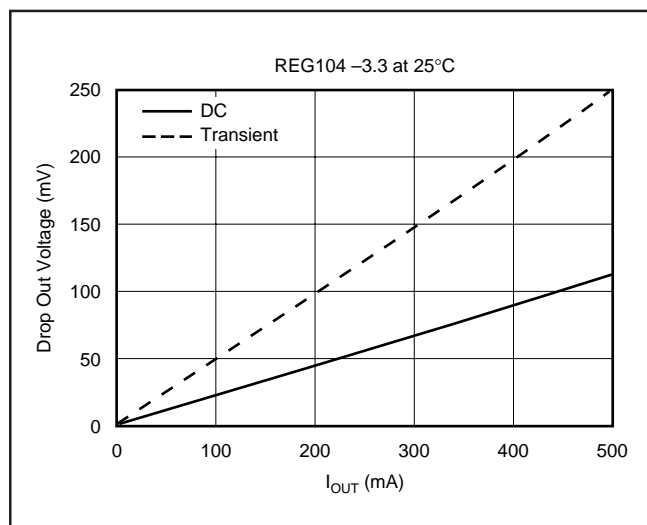

FIGURE 8. Transient and DC Dropout.
The REG104 uses an N-channel DMOS as the *pass* element. When the input voltage is within a few hundred millivolts of the output voltage, the DMOS device behaves like a resistor. Therefore, for low values of V_{IN} to V_{OUT} , the regulator's input-to-output resistance is the $R_{DS(ON)}$ of the DMOS pass element (typically 230mΩ). For static (DC) loads, the REG104 will typically maintain regulation down to V_{IN} to V_{OUT} voltage drop of 230mV at full rated output current. In Figure 8, the bottom line (DC dropout) shows the minimum V_{IN} to V_{OUT} voltage drop required to prevent dropout under DC load conditions.
For large step changes in load current, the REG104 requires a larger voltage drop across it to avoid degraded transient response. The boundary of this *transient dropout* region is shown as the top line in Figure 8. Values of V_{IN} to V_{OUT} voltage drop above this line insure normal transient response.